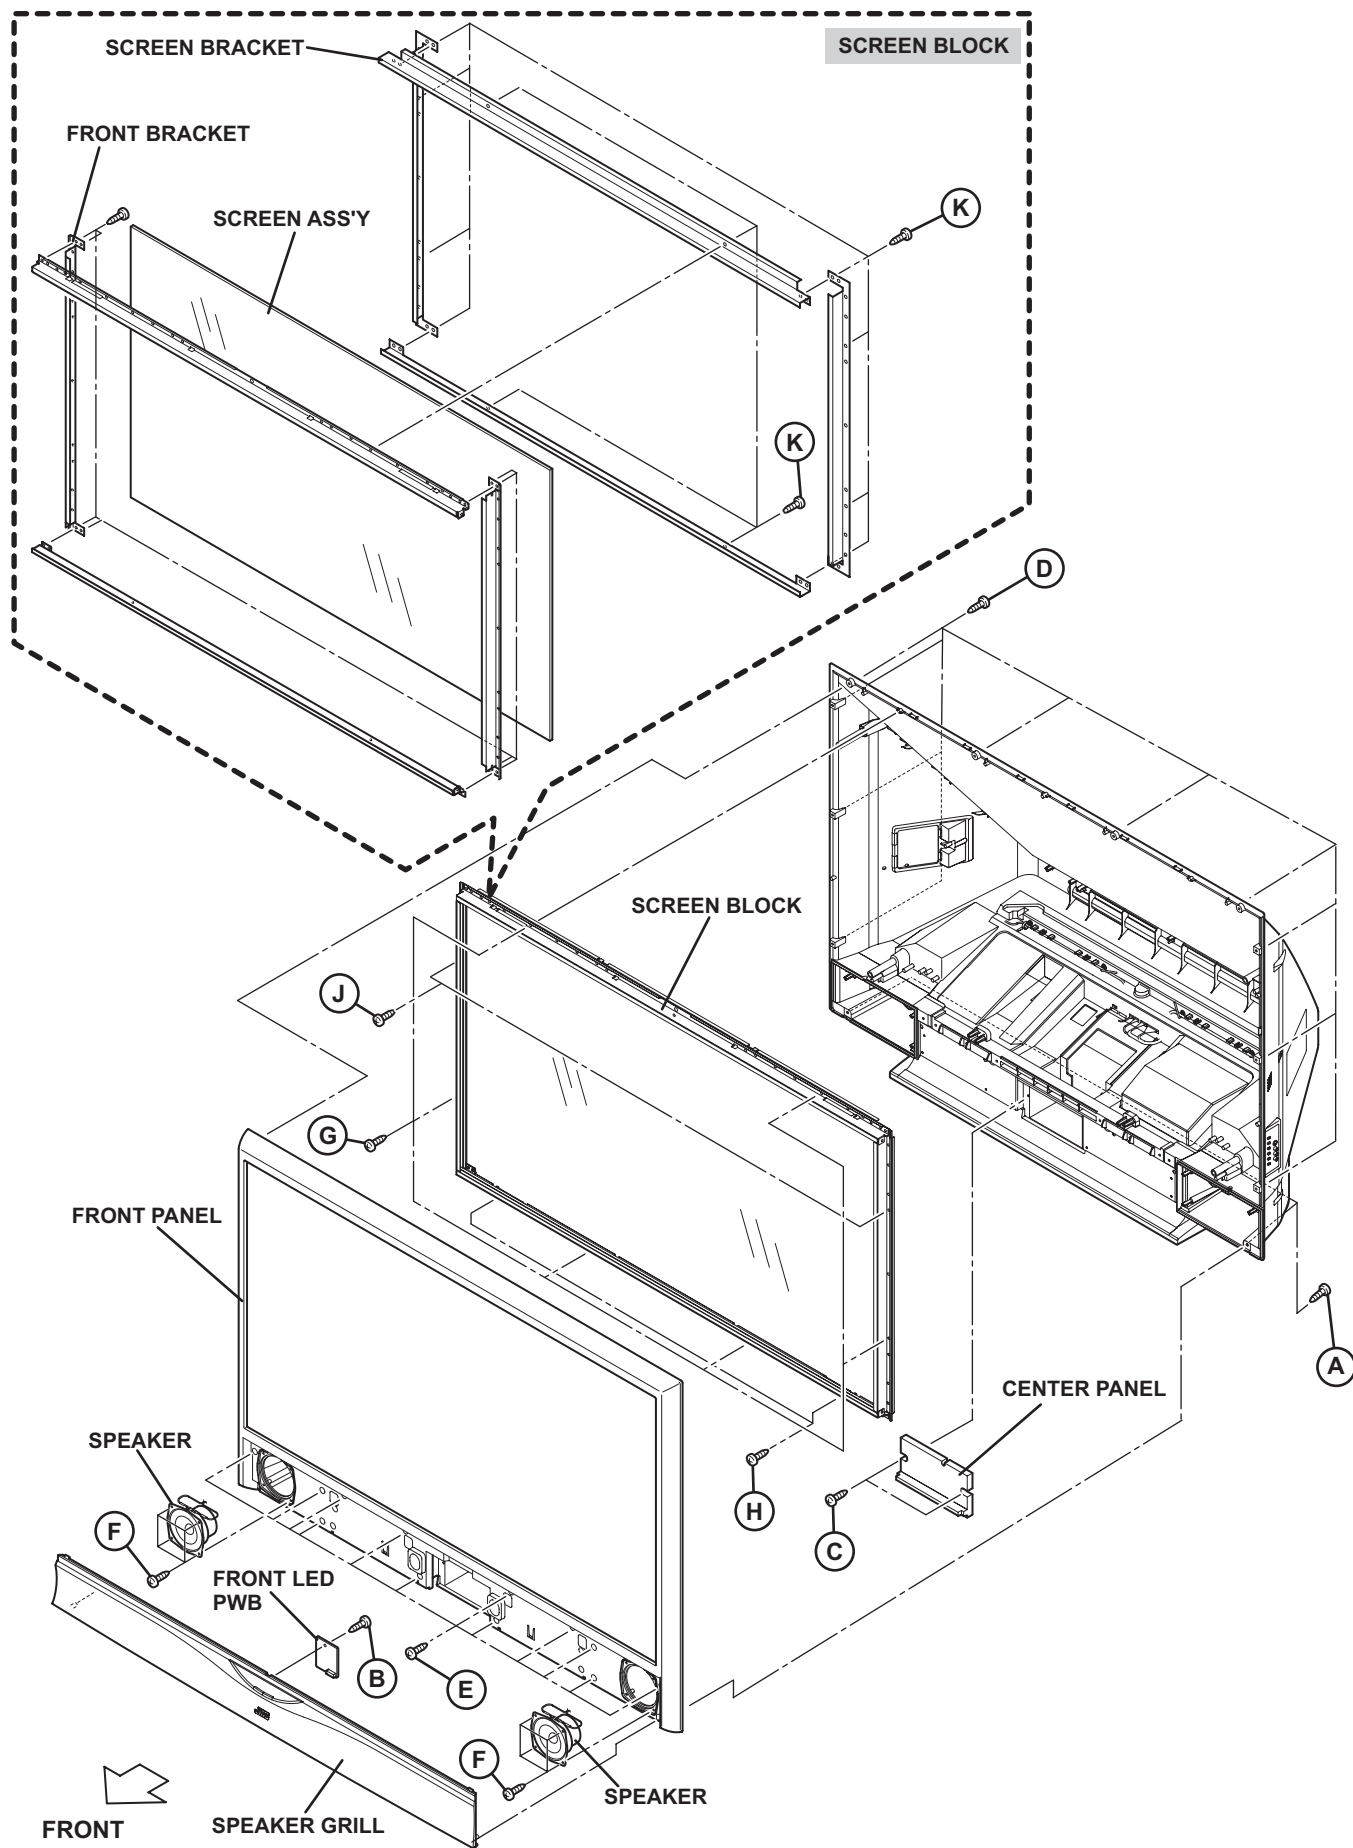

Fig.1
3.1.1.1 REMOVING THE SPEAKER GRILL (Fig.1)
- (1) Remove the 2 screws [A].
- (2) Remove the SPEAKER GRILL.
3.1.1.2 REMOVING THE FRONT LED PWB (Fig.1)
- (1) Remove the 1 screw [B].
- (2) Remove the FRONT LED PWB.
3.1.1.3 REMOVING THE CENTER PANEL (Fig.1)
- (1) Remove the 2 screws [C].
- (2) Remove the CENTER PANEL.
3.1.1.4 REMOVING THE FRONT PANEL (Fig.1)
- (1) Remove the 10 screws [D] and the 12 screws [E].
- (2) Remove the FRONT PANEL with the SPEAKERS.
3.1.1.5 REMOVING THE SPEAKER (Fig.1)
- (1) Remove the 4 screws [F].
- (2) Remove the SPEAKER.
3.1.1.6 REMOVING THE SCREEN BLOCK (Fig.1)
3.1.1.7 REMOVING THE SCREEN ASS'Y (Fig.1)